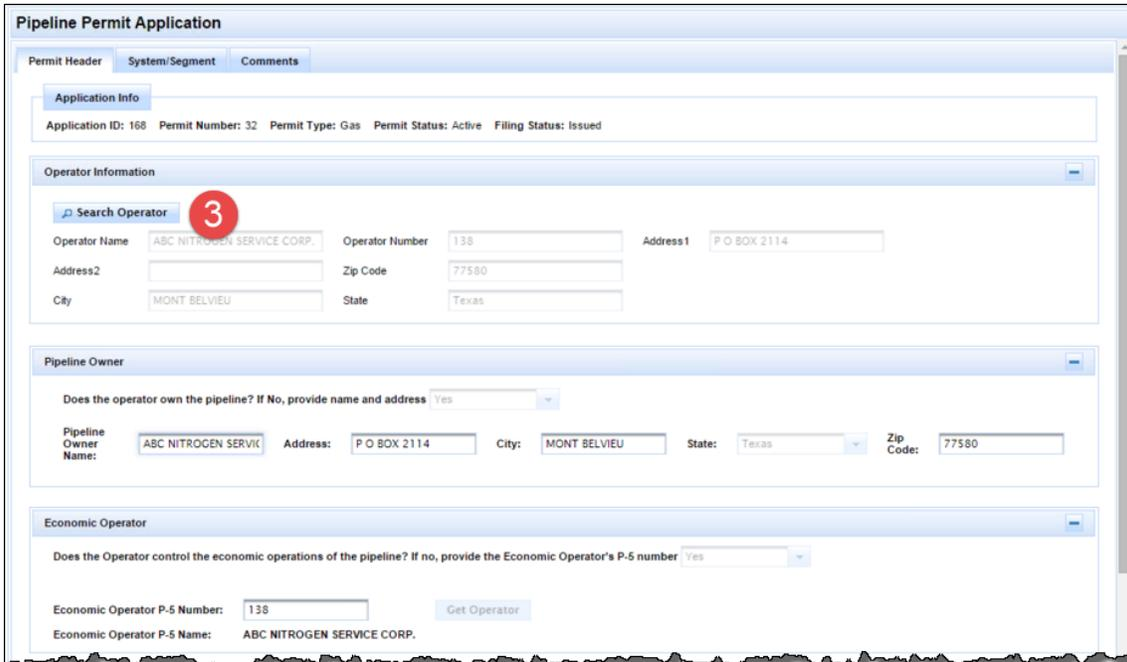

Figure 122: Permit Transfer, Step 3
2. Click **Transfer** on the dropdown menu. The Permit Header tab is displayed, shown in Figure 122.